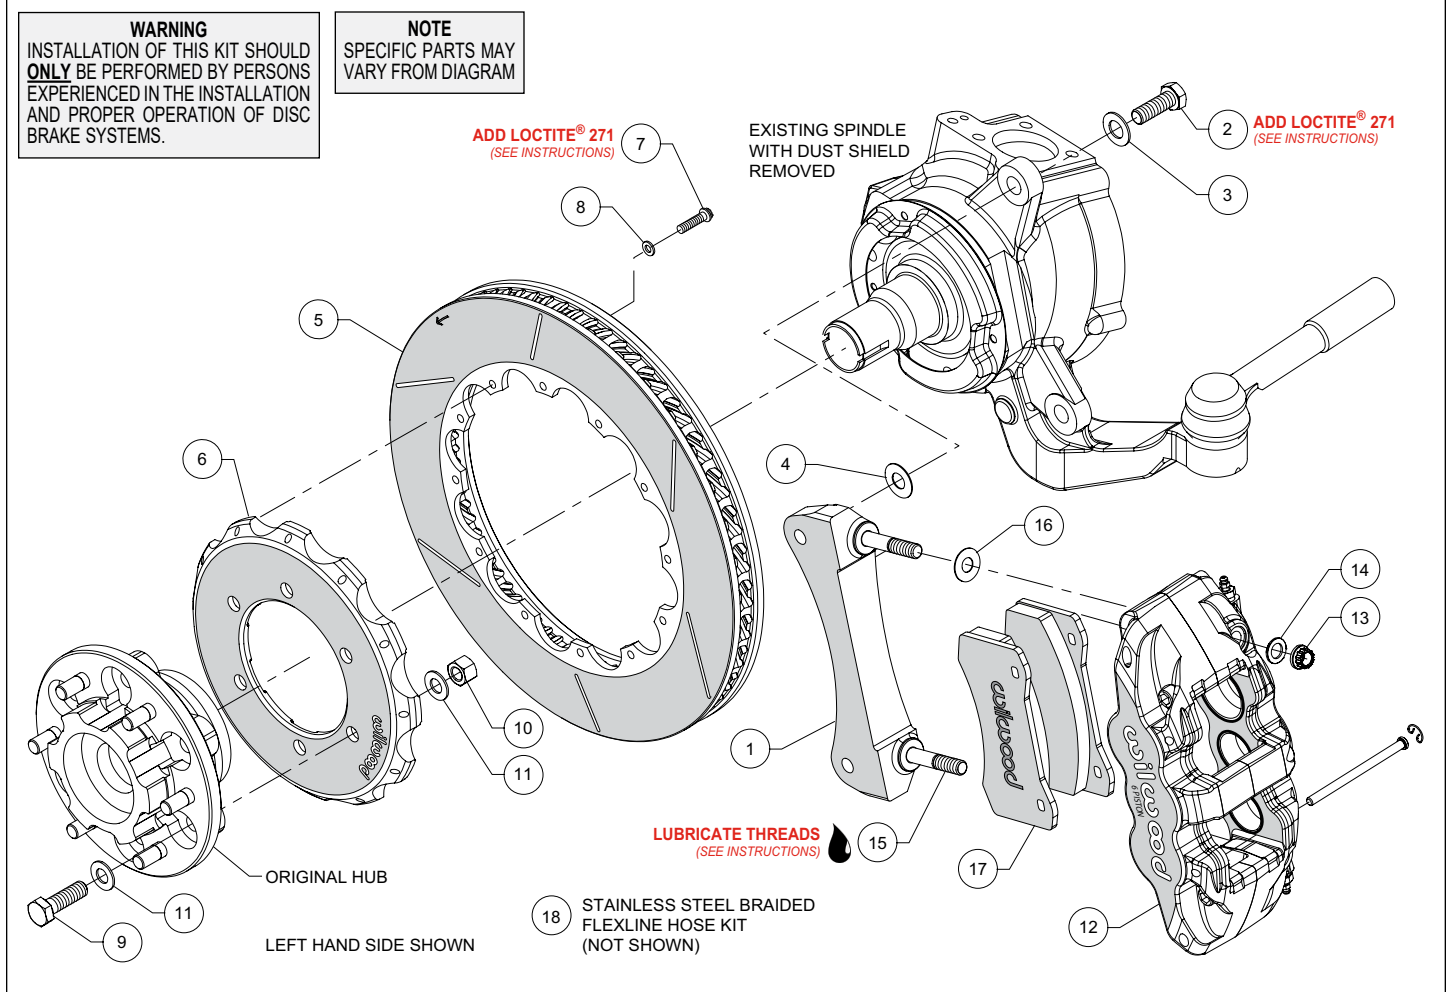
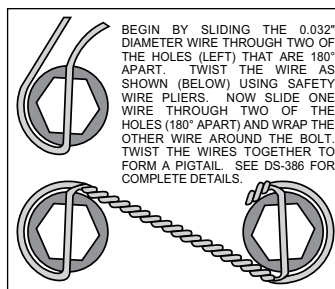

Figure 1. Typical Installation Configuration
Figure 3. Safety Wire Diagram
Assembly Instructions (numbers in parenthesis refer to the parts list and Figure 1 on the preceding pages):
- The caliper mount bracket (1) should initially be installed with clean, dry threads on the mounting bolts. Orient the bracket as shown in Figure 1 and Photo 1, install using bolts (2) and washers (3). Initially place one .029 thick shim (4) on each bolt between the bracket and upright, Figure 1. Temporarily tighten the mounting bolts. **NOTE:** *The bracket must fit squarely against the mount bosses on the upright.* Inspect for interference from casting irregularities, machining ridges, burrs, etc. Later, after the caliper alignment has been checked, the mount bolts will be secured using red *Loctite*® 271.
- Orient the rotor (5) and the hat (6) as shown in Figure 1 and Photo 2. Attach rotor to hat using bolts (7) and washers (8). Apply red *Loctite*® 271 to the bolt threads and torque to 155 in-lb using a criss-cross pattern. For an added measure of security, the bolts may be safety wired using standard 0.032 inch diameter stainless steel safety wire as shown in Figure 3. Please refer to Wilwood's data sheet DS-386 (available at www.wilwood.com/Pdf/DataSheets/ds386.pdf) for complete safety wire installation instructions.
- Install the saved OEM hub to the hat (6) using bolts (9), lock nuts (10) and washers (11) as shown in Figure 1, Photos 3 and 4. **NOTE:** *The hat must fit flush against the hub flange or excessive rotor run out may result.* Torque the lock nuts to 60 ft-lb.
- NOTE:** *This kit contains distinct right and left hand calipers that must be mounted in a specific direction, as described below.* Lubricate the caliper mounting studs (15) with lightweight oil. Initially place one .030" thick shim (16) on each stud as shown in Figure 1 and Photo 6. Mount the caliper (12) onto the bracket (1) using lock nuts (13) and washers (14), Figure 1. Ensure that the caliper is mounted so that the largest pistons are at the rotor exit end of the caliper, in relation to the direction of rotor rotation. Temporarily tighten the lock nuts and view the rotor through the top opening of the caliper. The rotor should be centered in the caliper, Photo 7. If not, adjust by adding or subtracting shims (4) between the bracket and the upright. Always use the same amount of shims on each of the two mounting bolts. Once the caliper alignment is correct, remove the bracket mounting bolts (2) one at a time, apply red *Loctite*® 271 to the threads, and torque to 77 ft-lb.
the bottom, Figure 1 and Photo 8. With the friction material facing the rotor, secure the brake pads in place with the pad retaining pins and clips, Photo 9. Reinstall the caliper onto the caliper mounting bracket and temporarily tighten the lock nuts. Check that the top of the brake pad is flush with the outside diameter of the rotor, Photo 10. If not, adjust by adding or subtracting shims (16) between the caliper and the bracket. After the caliper pad height is set, torque the caliper lock nuts (13) to 47 ft-lb.